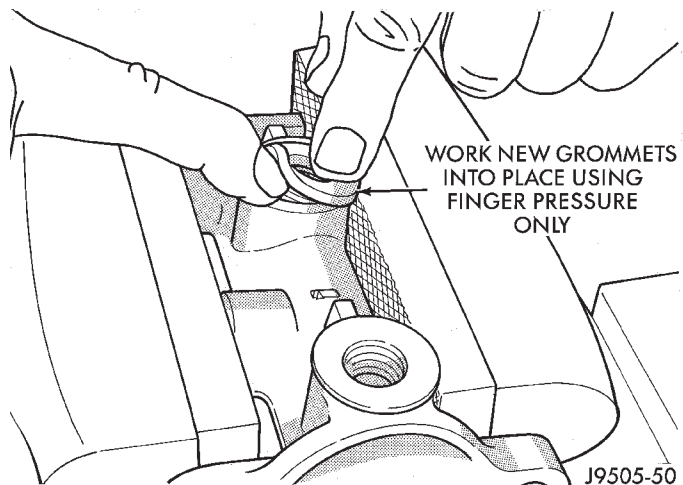

Fig. 44 Grommet Installation
(1) Lubricate new grommets with clean brake fluid and install new grommets in cylinder body (Fig. 44). Use finger pressure to install and seat grommets.